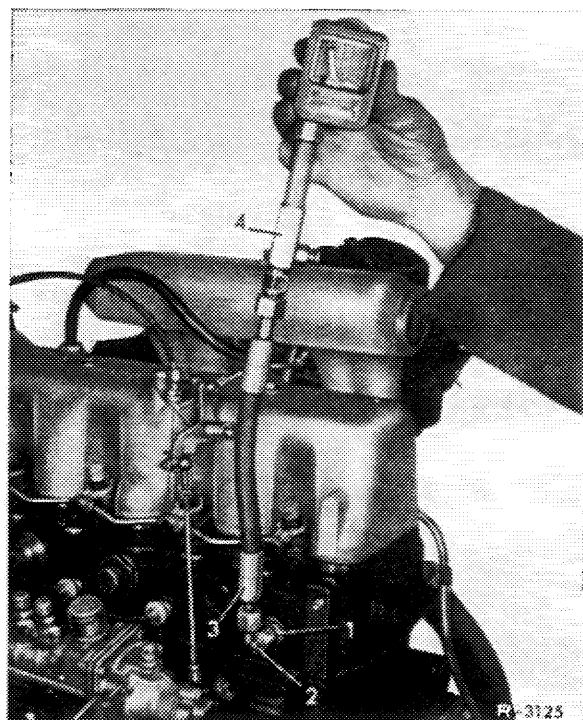

Fig. 00-5/1
On diesel engines screw the connector (1) into the glow plug bore of the cylinder to be tested (Fig. 00-5/1). Tighten well to provide a leak-proof seal. For testing cylinders 2 and 3 attach the angular connector (2) to the connector (1) by means of the cap nut. Then attach the hose (3) of the compression recorder (4) to either the connector (1) or the angular connector (2).